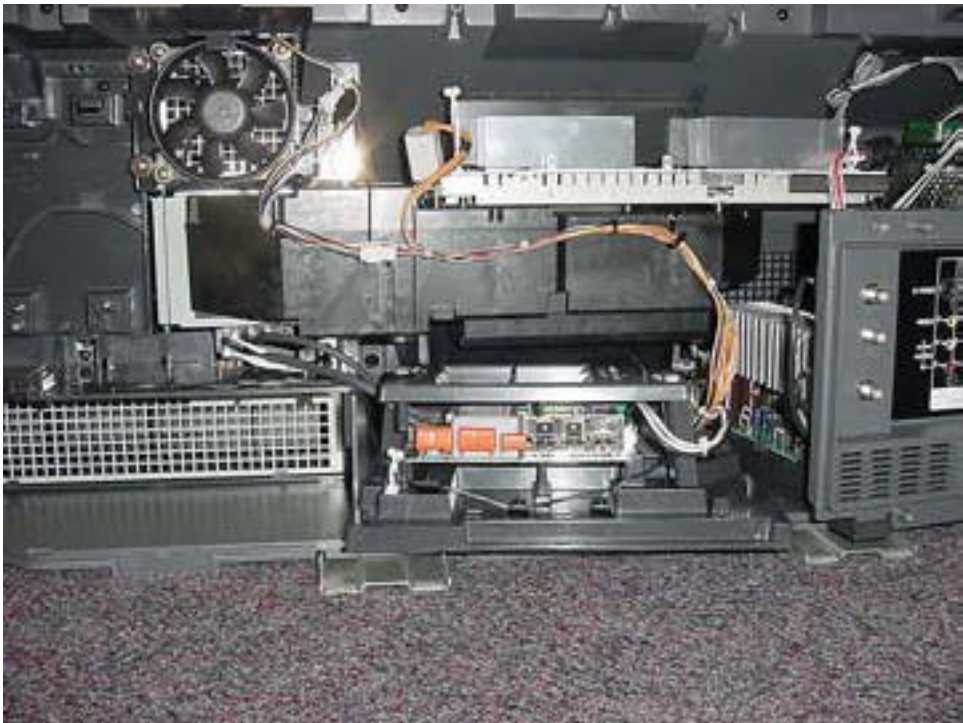

FIGURE 22-4 - POWER BLOCK UP AND OUT
- d) Lift the Lamp board assembly up and outward (figure 22-4)